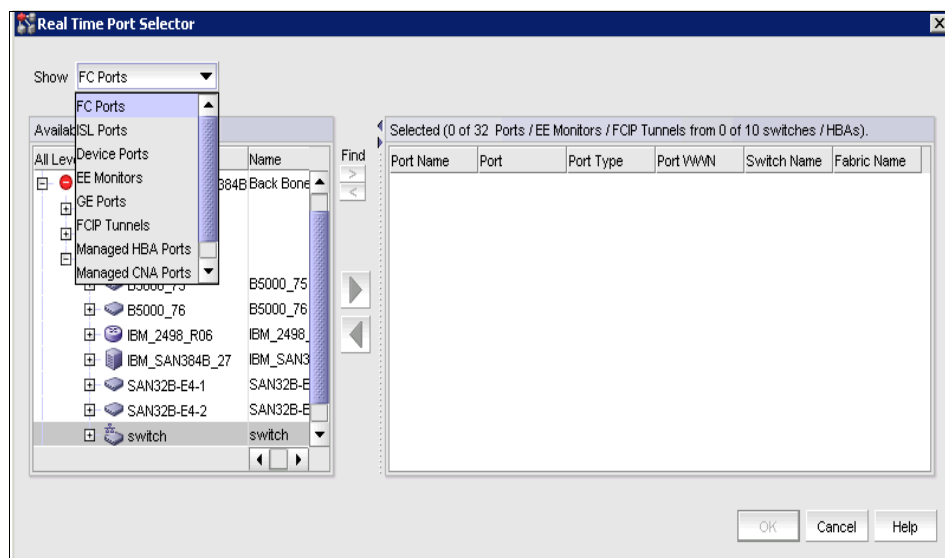

Figure 9-54 Real Time Port Selector
The Real time Port Selector dialog box displays (see Figure 9-54).
3. Select the object type (FC Ports, ISL Ports, Device Ports, EE Monitors, GE Ports, FCIP Tunnels, Managed HBA ports, Managed CNA ports and 10 GE ports) for which you want to graph performance from the Show list (see the rounded rectangle in Figure 9-54).